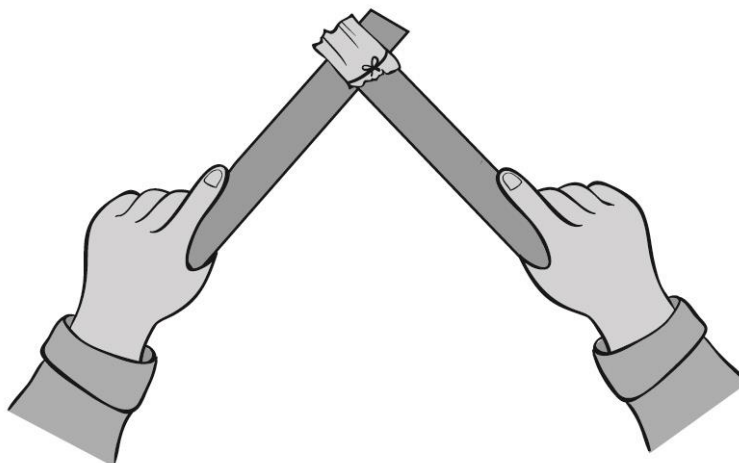

Figure 2
- Wrap the small woolen cloth around the end of the PVC plastic strip or the glass rod. Secure it tightly with the silk thread (see Figure 2).
- Rub the woolen cloth along the length of a strip of PVC plastic (see Figure 2).